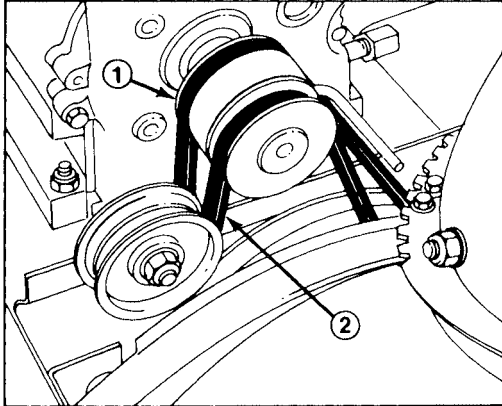
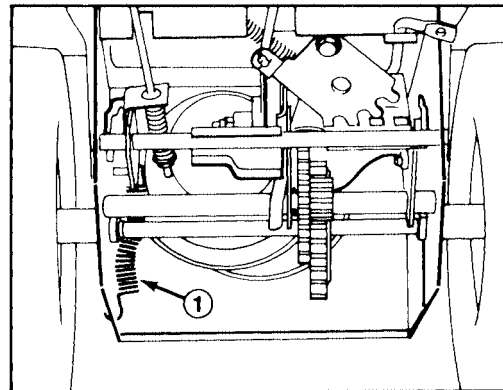

Figure 25
Figure 26
When auger/impeller drive belt (Fig. 25) becomes worn, stretched, oil-soaked, or otherwise defective, belt replacement is required.
4. Install new belt around large auger/impeller pulley (Fig. 25). Next, loop belt over engine pulley, making sure that belt is on inside of idler pulley and wire belt guide (Fig. 25).
4. Tip snowthrower onto auger housing and block it so it cannot fall. Remove rear shield and disconnect spring from side plate (Fig. 26).
5. Set unit upright and remove traction drive belt from engine pulley and large traction pulley (Fig. 25).
6. Install new belt around large traction pulley (Fig. 25). Next, loop belt over engine pulley, making sure that belt is on inside of traction idler pulley and wire belt guide (Fig. 25). Tip snowthrower onto auger housing, block it and hook spring onto side plate (Fig. 26). Replace rear shield and set unit upright.
7. Replace auger/impeller drive belt: refer to Replacing Auger/Impeller Drive Belt, item 4-5.